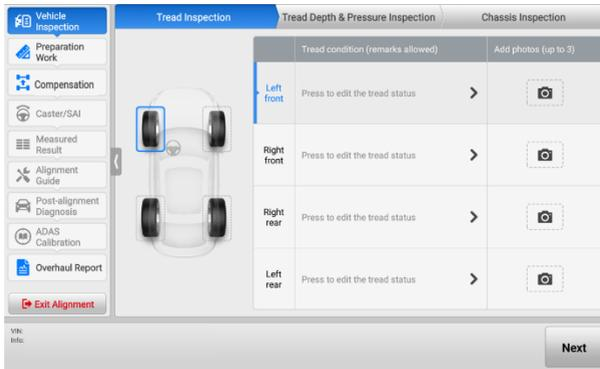
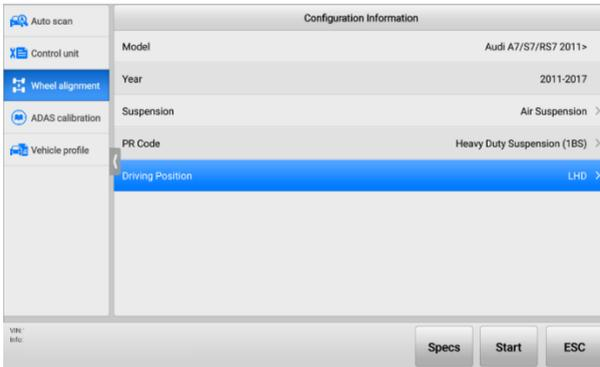

Figure 5-4 Complete Wheel Alignment Procedures Screen
Figure 5-12 Wheel Alignment Screen (Advanced Wheel Alignment)
- Tap **Start** and follow the on-screen instructions step by step to continue, and finally enter the whole Wheel Alignment Procedures screen. See Figure 5-4 Complete Wheel Alignment Procedures Screen.
3. Select **Wheel Alignment** from the Navigation Bar to continue (see Figure 5-12 Wheel Alignment Screen \(Advanced Wheel Alignment\)). The following steps are the same as described in the Advanced Wheel Alignment. You can follow the on-screen instructions to operate step by step, and finally enter the whole Wheel Alignment Procedures screen (see Figure 5-4 Complete Wheel Alignment Procedures Screen).